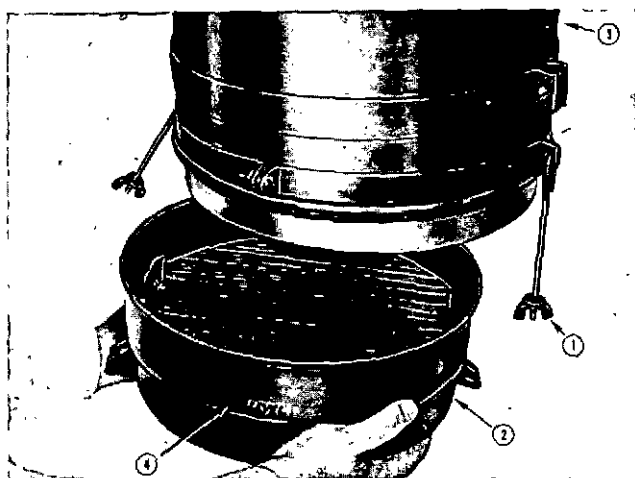

Fig. 5-3. Oil level in air cleaner
Daily, check oil level (4, Fig. 5-3) in oil bath air cleaner (3) to be sure oil level in oil cup (2) is at indicated mark. To remove oil cup, loosen wing nuts (1). During wet weather and in winter months, excessive moisture in air cleaner oil sometimes causes cleaner to become flooded and results in oil pullover or plugging of the bottom air cleaner screen. Add or change oil as necessary. This is especially important if oil bath cleaner is the only cleaner on the engine.